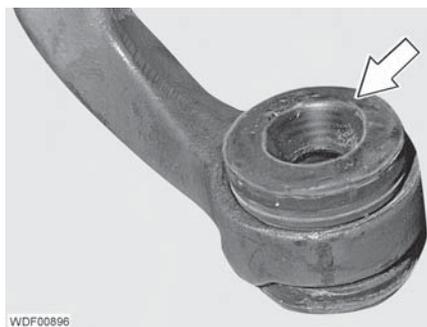

Fig. 65 Installation position
- Position the new rubber buffer in such a way that the sinkhole points away from the engine mount (Fig. 65).